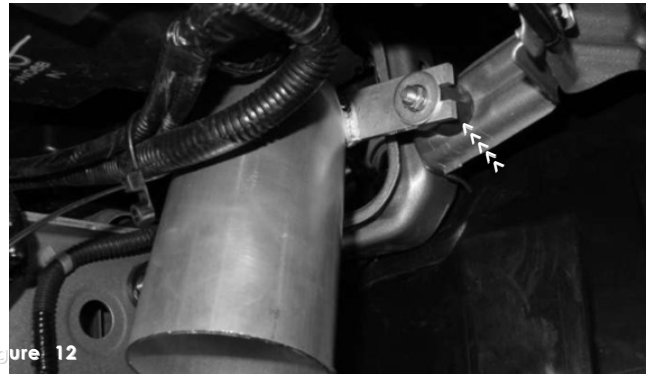

Figure 12
- 11-Insert the secondary intake into the resonator opening. (See fig. 11A) Align the bracket on the intake to the vibra-mount stud and use the m6 flange nut and fender washer to secure the intake in place. (See fig. 12) Press the upper end of the secondary intake into the 3" straight hose on the primary intake, semi-tighten the clamp. (See fig. 11B)